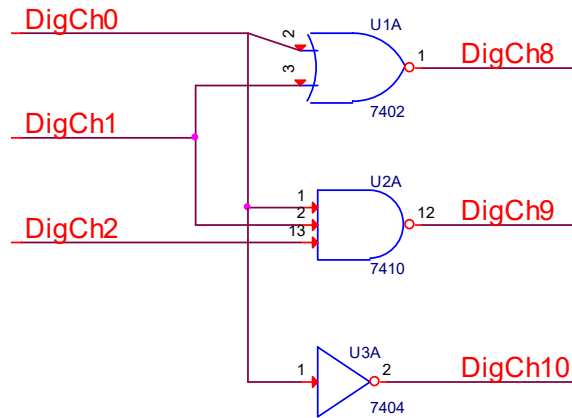

Figure A-3.1
- Wire the circuits in Figure A-3.1 on your protoboard. Do not forget to tie pin 14 to +Vcc (+5V) and pin 7 to 0V (Ground) on each chip. (Also note that the 74107 chip and the 7410 chip in your kit are not the same chip. We want the 7410 here.) The protoboard, with and without connections to Analog Discovery/M2k, is also shown.